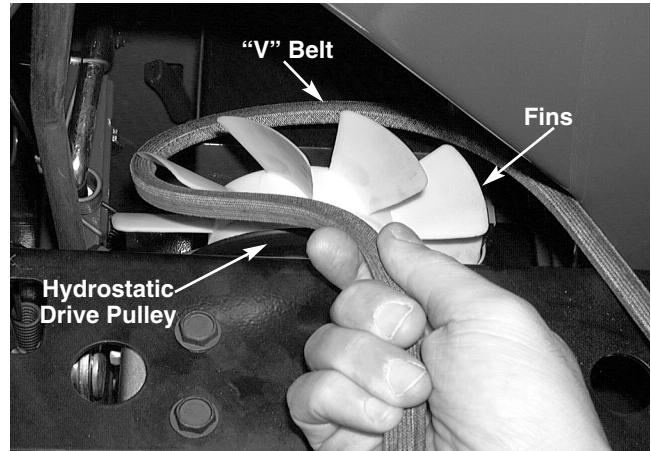

FIGURE 7.
15. Remove the "V" belt from around the hydrostatic drive pulley. See figure 7.